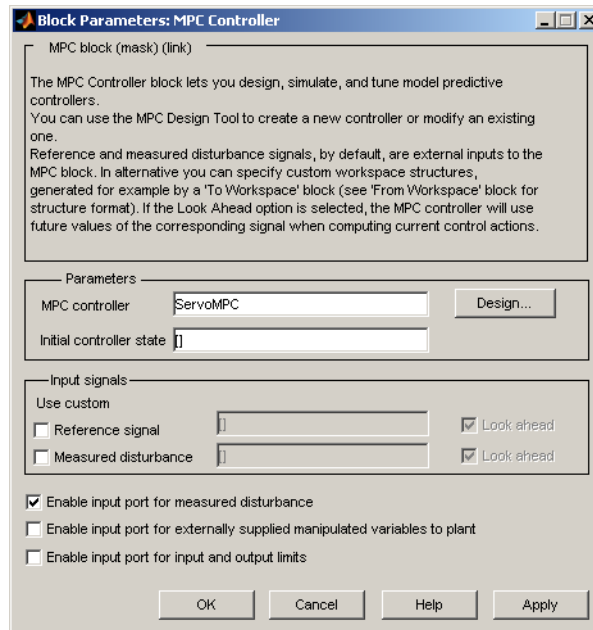

Figure 4-16: Model Predictive Control Toolbox™ Simulink® Block Dialog Box
- MPC Controller is from the MPC Blocks library. Figure 4-16 shows the dialog box obtained by double-clicking this block. You need to supply an MPC object, and `ServoMPC` is being used here. It must be in the workspace before you run a simulation. The **Design** button opens the design tool, which allows